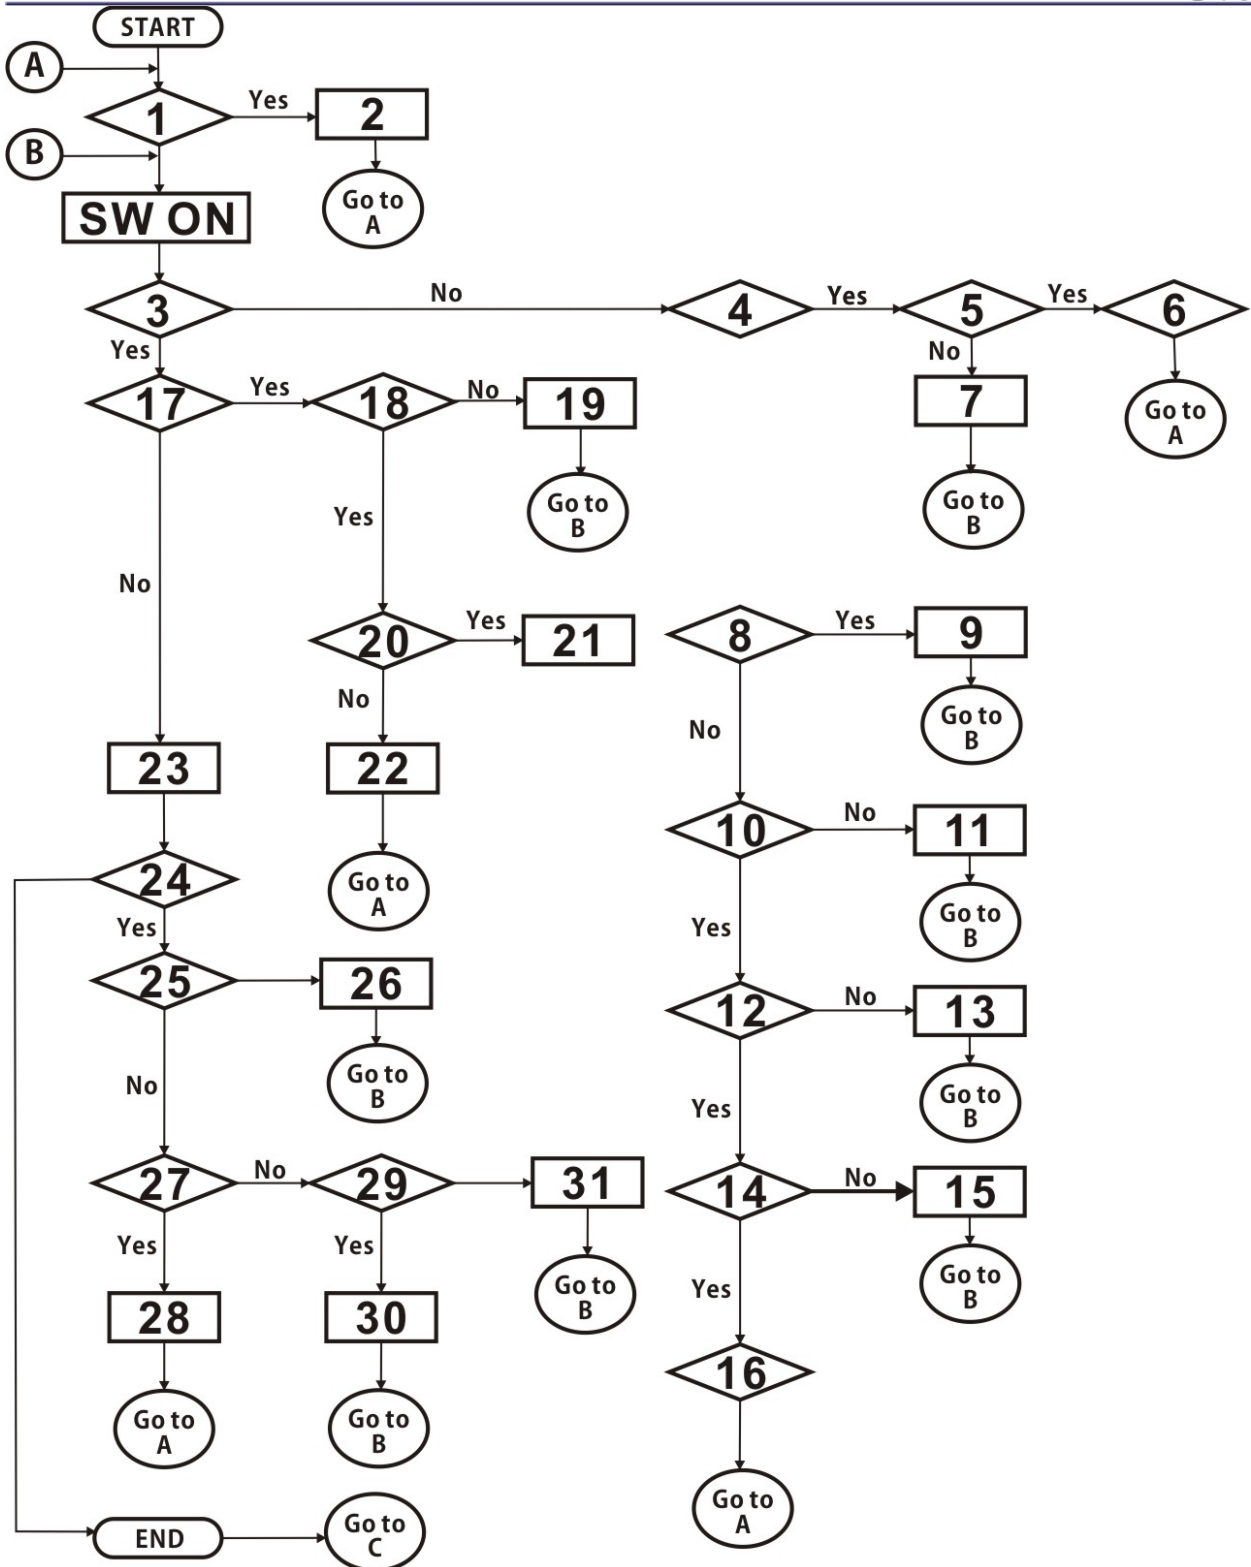

Figure W-7 Battery Mode Examination Flowchart
13.7.1 Battery mode examination (please refer to Figure W-7)